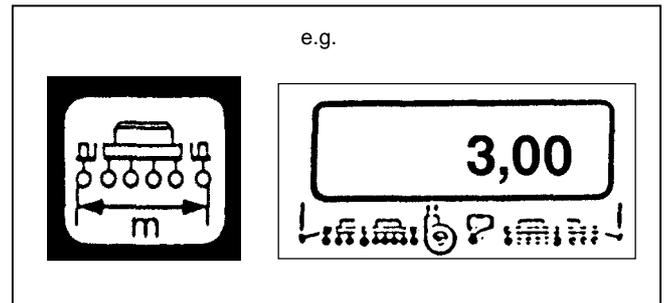

Fig.2
4.2.2 Key "Width of Work" (Fig.2)